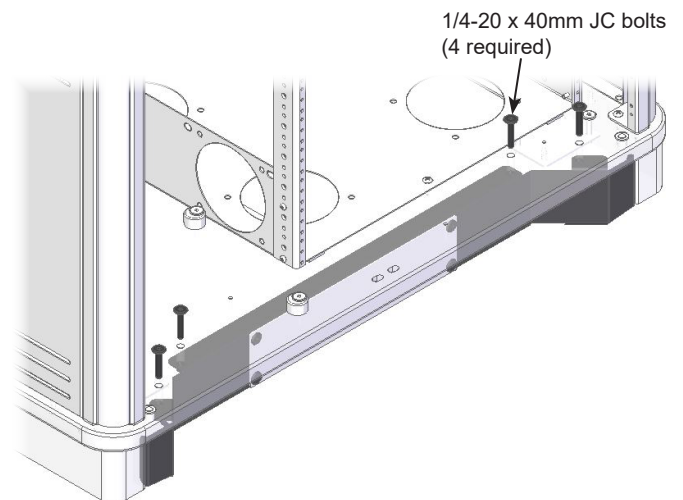

Figure 8.3
9. Install (4) 1/4-20 x 40mm JC bolts through the base panel to secure, and tighten securely. **Figure 8.3.**